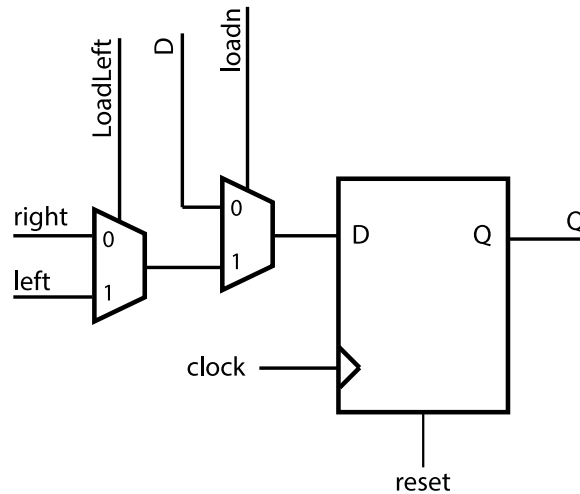
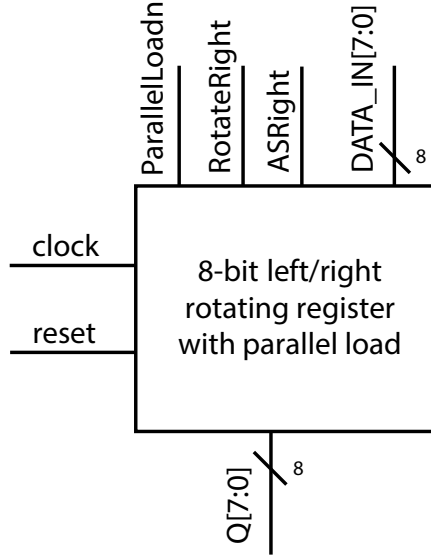

Figure 5: Sub-circuit for Part III.
Figure 6: Top-level circuit for Rotating Register of Part III.
Figure 5 shows a positive edge-triggered flip-flop with several multiplexers. In this part of the lab, you will use eight instances of the circuit in Figure 5 to design a left/right 8-bit rotating register with parallel load shown in Figure 6.
The *LoadLeft* input of all eight instances of the circuit in Figure 5 should be tied to the input *RotateRight* of the rotating register because when you want to rotate the bits right, you have to load the bit in the flip flop to the left. The *loadn* input of all eight instances should be tied to the input *ParallelLoadn* of the rotating register. The *clock* input of all eight flip flop instances should be tied to the *clock* input of the rotating register.
We will create an 8-bit-wide rotating register with an input *DATA_IN*, whose individual wires *DATA_IN*₇ to *DATA_IN*₀ are tied to the respective *D* input of each instance of the circuit in Figure 5. Similarly, we will create an 8-bit-wide rotating register output *Q*, whose individual wires *Q*₇ to *Q*₀ are connected to the respective *Q* output of each instance of the circuit in Figure 5.
The remaining connections between the eight instances of the circuit in Figure 5 should realize the following behaviour:
- Draw a schematic for the 8-bit rotating register with parallel load. Your schematic should contain eight instances of the sub-circuit in Figure 5 and all the wiring required to implement the desired behaviour. Label the signals on your schematic with the same names you will use in your Verilog code.
- Starting with the code in Figure 2 for a flip flop, modify it to have an *active-high* synchronous reset. Combine this new flip flop with instances of the *mux2to1* module from Lab 2 to build the sub-circuit shown in Figure 5. To get you started, Figure 7 is a sample of hierarchical code showing the D flip flop with one of the 2-to-1 multiplexers connected to it.
- Write a Verilog module for the rotating register with parallel load that instantiates eight instances of your Verilog module for Figure 5. This Verilog module should match the schematic in your lab book.